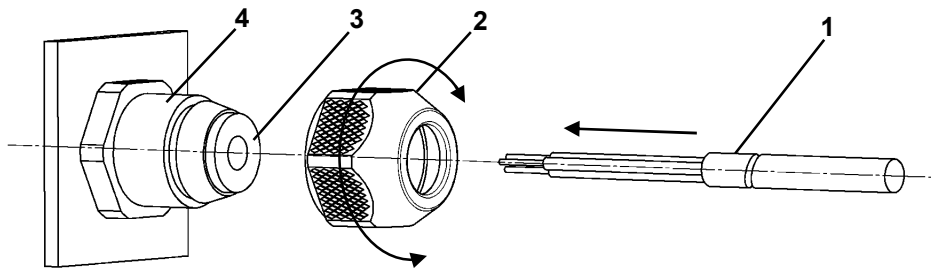

Figure 10: PG / cable screw fitting connection
- Guide the connecting cable Pos. 1 through the union nut Pos. 2, the moulded seal Pos. 3 and the intermediate support Pos. 4 (Fig. 10).